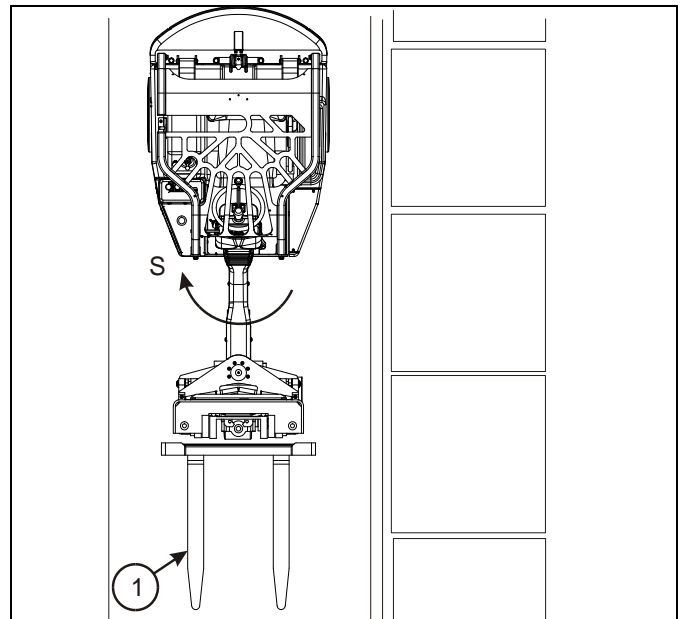

Figure 4-24: Backing Away from the Load
11. Shift into reverse and slowly back out of the load as you turn the steering wheel to keep the forks straight. See Figure 4-24.
12. When the front right fork clears the rack, stop backing and turn the steering wheel to straighten out the forks so they are parallel with the body of the truck. Item 1 - See Figure 4-24.